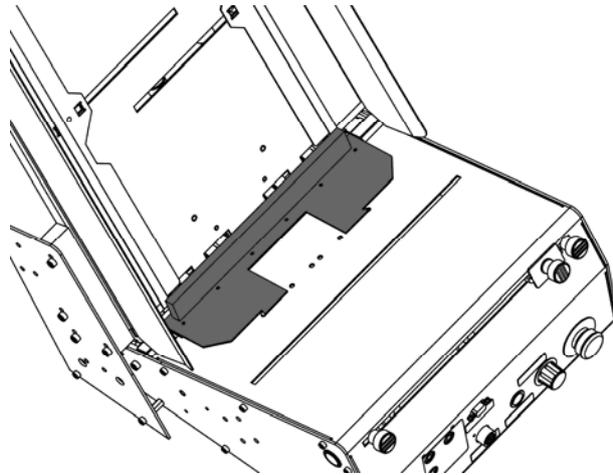

Figure 20: Usage of the cleaning tool
- Engage the cleaning tool with the two outer holes of the contact plate (holes for the wedges) (see Figure 20).